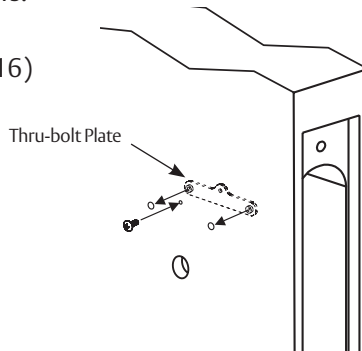

Figure 15
11. Turn-piece functions only: install turn-piece thru-bolt plate using truss head screw. (Leave screw slightly loose.) (Figure 15)